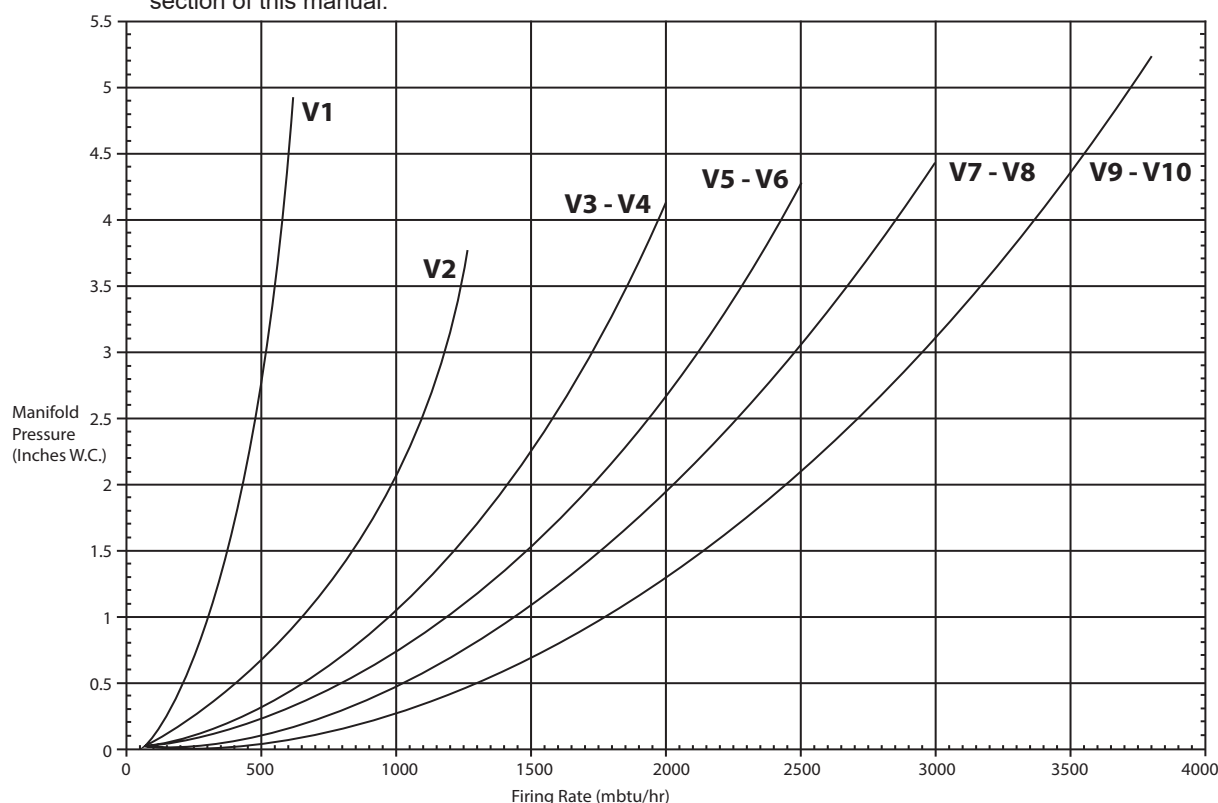

Figure 7. Manifold Pressure vs. Firing Rate - VA 120V Burners
- If necessary adjust the fHi (fan high) setting on the SCEBM-2 module until the desired manifold pressure is achieved. Use Figure 7 to determine desired manifold pressure.